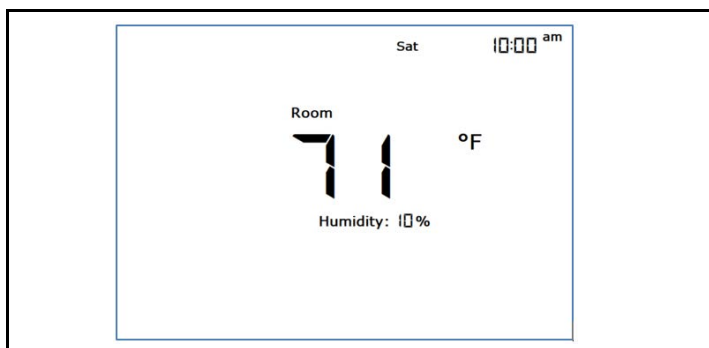

Figure 3-19 - Main User Interface (Backlight Off)
- The main user interface menu is shown in *Figure 3-19*: